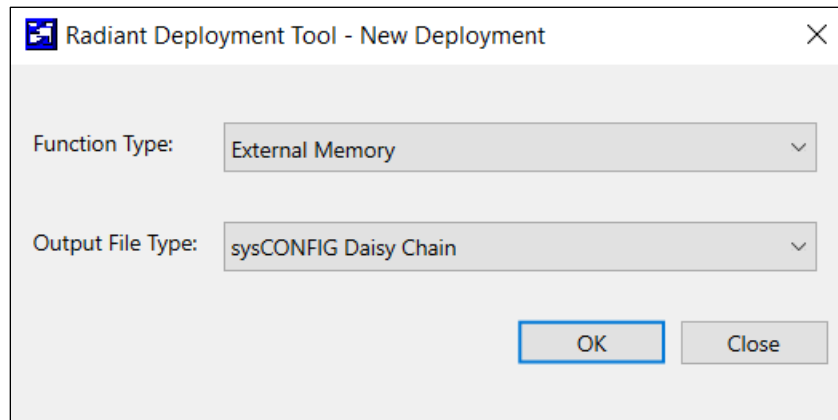

Figure 9.1. Creating New Deployment for sysCONFIG Daisy Chain Hex File
2. In the Radiant Deployment Tool window, select **External Memory** as the **Function Type** and select **sysCONFIG Daisy Chain** as the **Output File Type** (Figure 9.1).